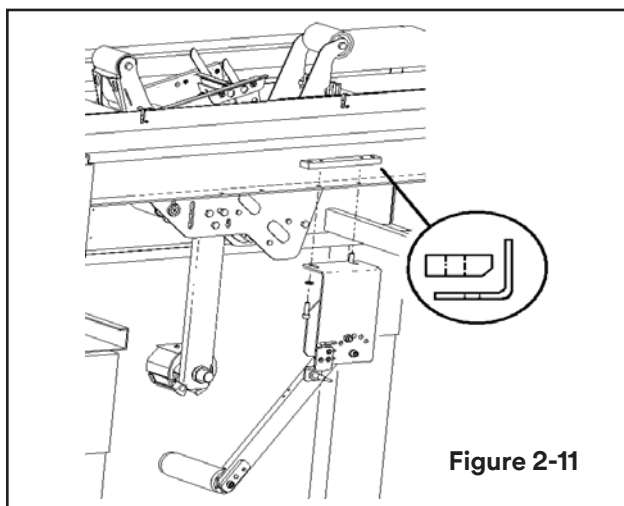

Figure 2-11
- 9) Fasten the dancer arm assembly to the case sealer frame using (2) M6 screws, washers and the nut plate as illustrated in **Figure 2-11**.